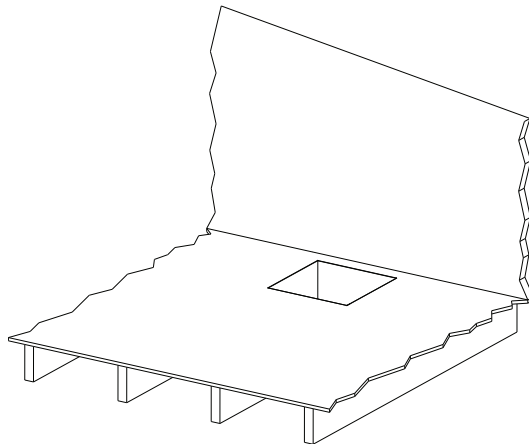

Fig. 1 – Floor Cutout
- 1 Cut a hole in the floor where the unit will be located. See Fig. 1 and the floor cutout dimensions table.